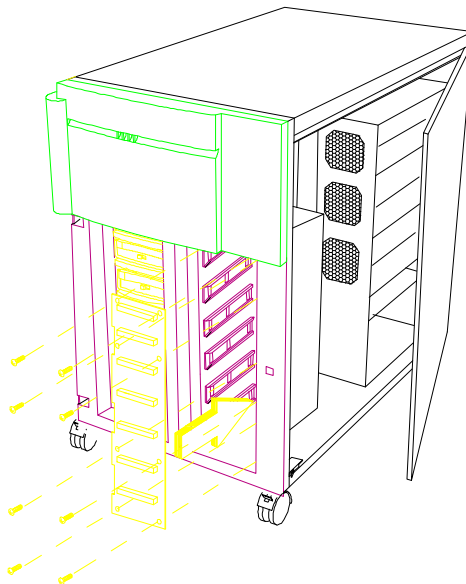

Figure 3-37 Installing a Backplane Board
3. Position the backplane to the front of the housing and push it back until it fits into place. See Figure 3-37.